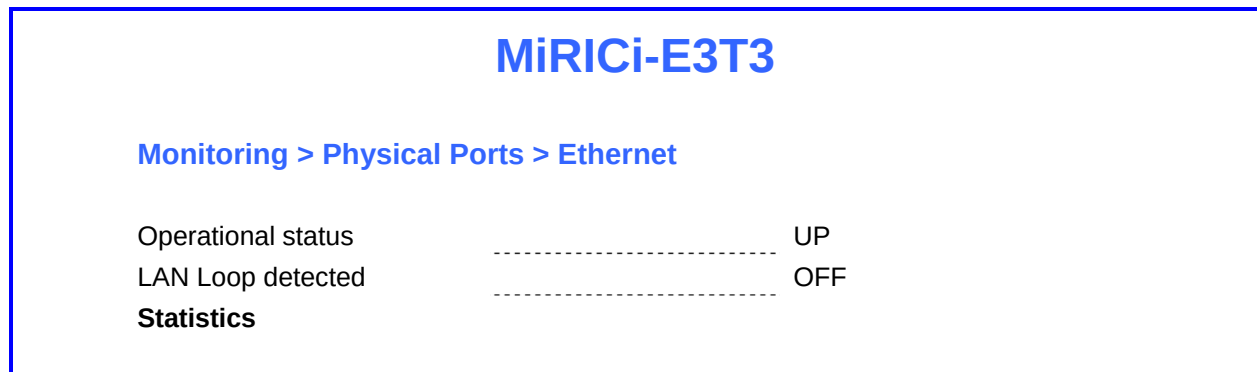

Figure 4-16 Ethernet Port Status Menu
You can change the direction of the operational status by selecting **UP** or **DOWN** from the Ethernet Port Status menu (see *Figure 4-16*). **LAN Loop detected**—Loop detected (ON), Loop not detected or loop detection not activated (OFF)